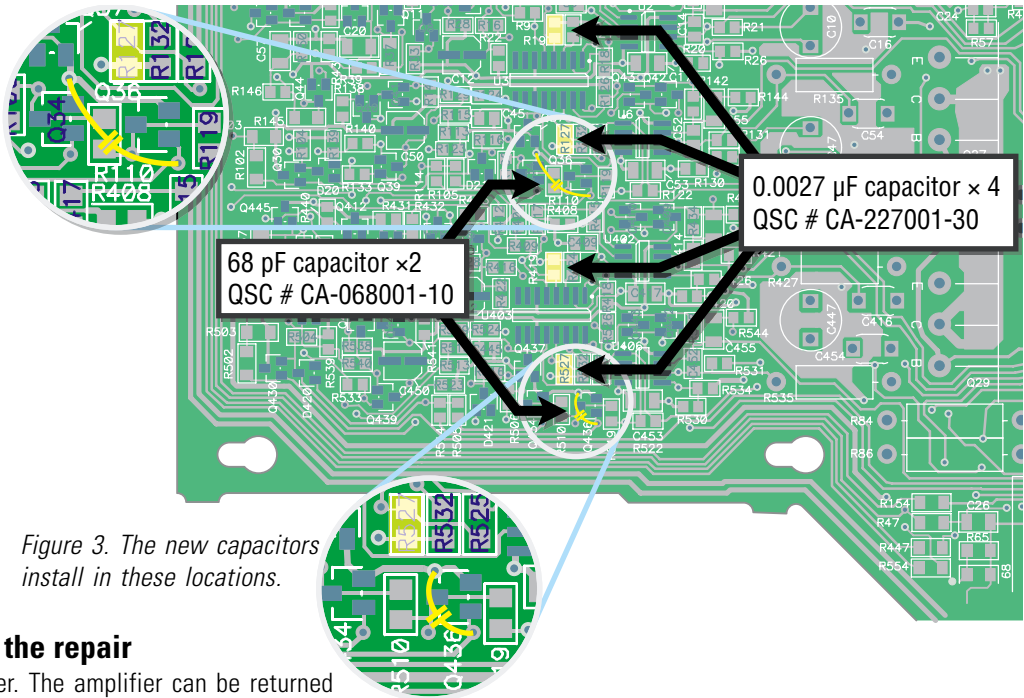
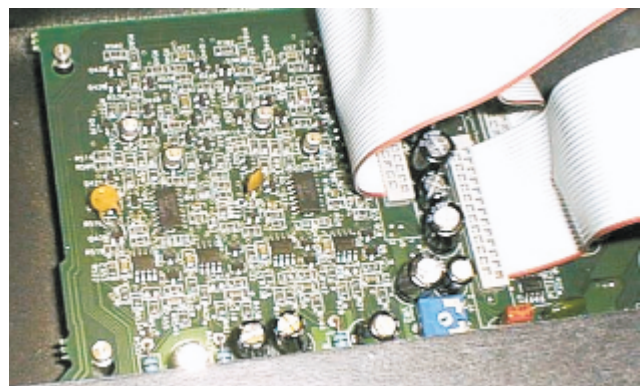

Figure 3. The new capacitors install in these locations.
Figure 4. The main circuit board with the new capacitors installed.
3. Locate SMT resistors R19, R127, R419, and R527 (see Figure 3). On top of and in parallel with each resistor, install a 0.0027 μ F capacitor.
4. The two 68 pF capacitors will each install into a pair of vias (through-holes). Locate the vias shown in Figure 3. Trim the capacitor leads so they are long enough to span between the vias but short enough to not short-circuit to the chassis underneath. Insert and solder the capacitors in the vias. Figure 4 shows the finished job.